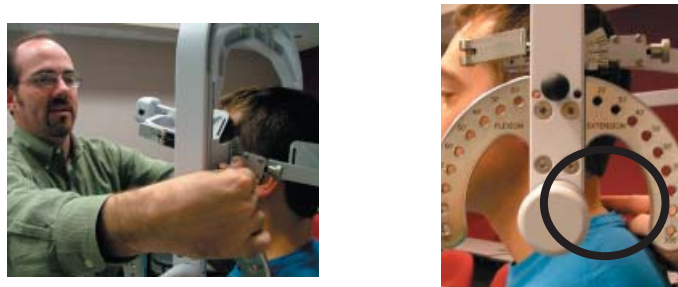

Figure 6-69. Final Adjustments and Locating C5/C6
Step 11. Make fine adjustments to the seat to line up C5/C6 of the patient's spine with the pivot point of the halo (Figure 6-69).